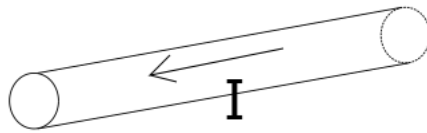

Figure 5.1: Wire with a current I going from right to left.
5. Imagine stacking multiple wires similar to that of Fig. 5.1 parallel to each other, with the current of each all running in the same direction. Would the magnetic field close to the stack of wires be greater, equal or smaller than the scenario with a single wire?